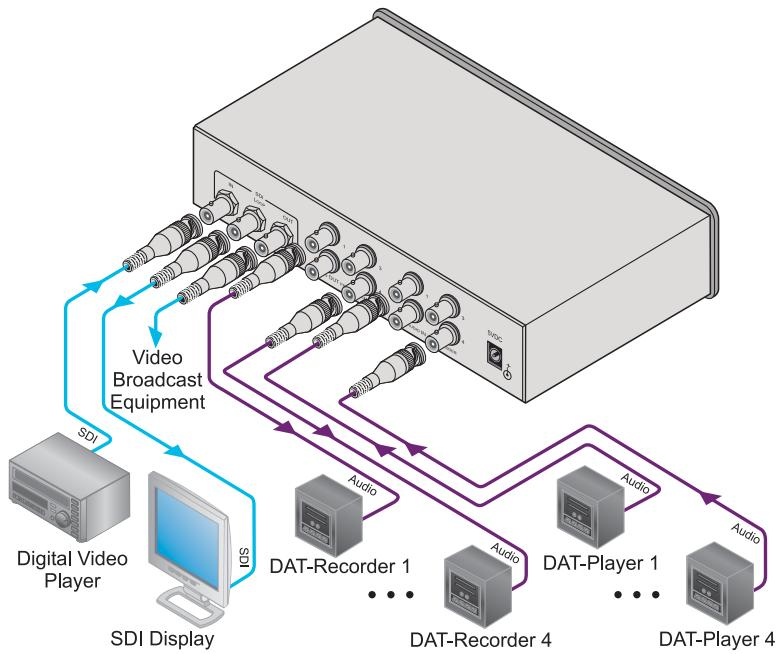

Figure 2: Connecting the 6810HDxI SDI/HD-SDI/3G Audio Embedder/De-embedder
To connect the **6810HDxI**, as illustrated in the example in Figure 2, do the following:
6. Connect the 5V DC power adapter to the power socket and connect the adapter to the mains electricity (not shown in Figure 2).